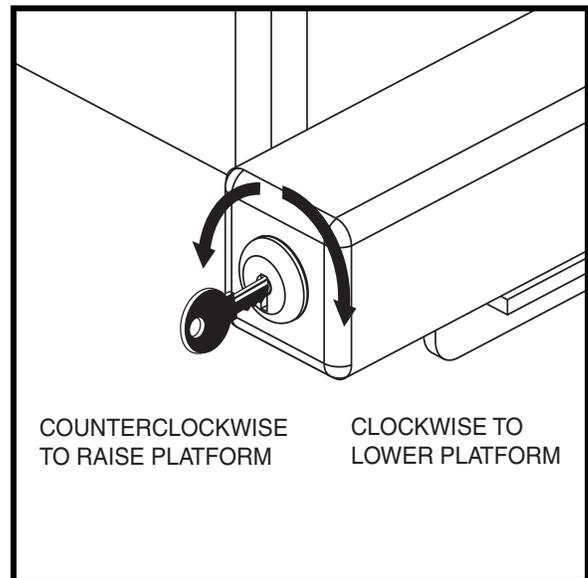

Figure 11. Key Switch Operation
2. Turn and hold the key clockwise to lower the lift platform. See figure 11. Release the key as soon as the lift platform touches the ground.
4. Raise the lift platform by turning and holding the key in the counterclockwise direction. See **figure 11**. Continue to raise the lift until the motor stops, then release the key.